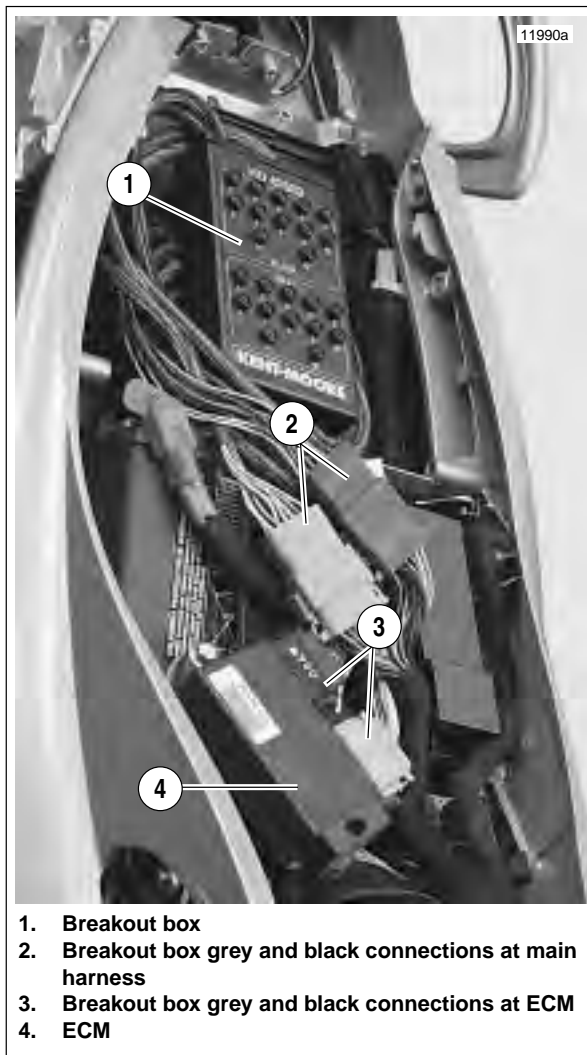

Figure 4-9. ECM and Breakout Box with Connections
3. See Figure 4-9. Attach Breakout Box (1) to black connector [10].
1. See Figure 4-9. Depress latches on each side of connectors [10] (black) and [11] (gray).